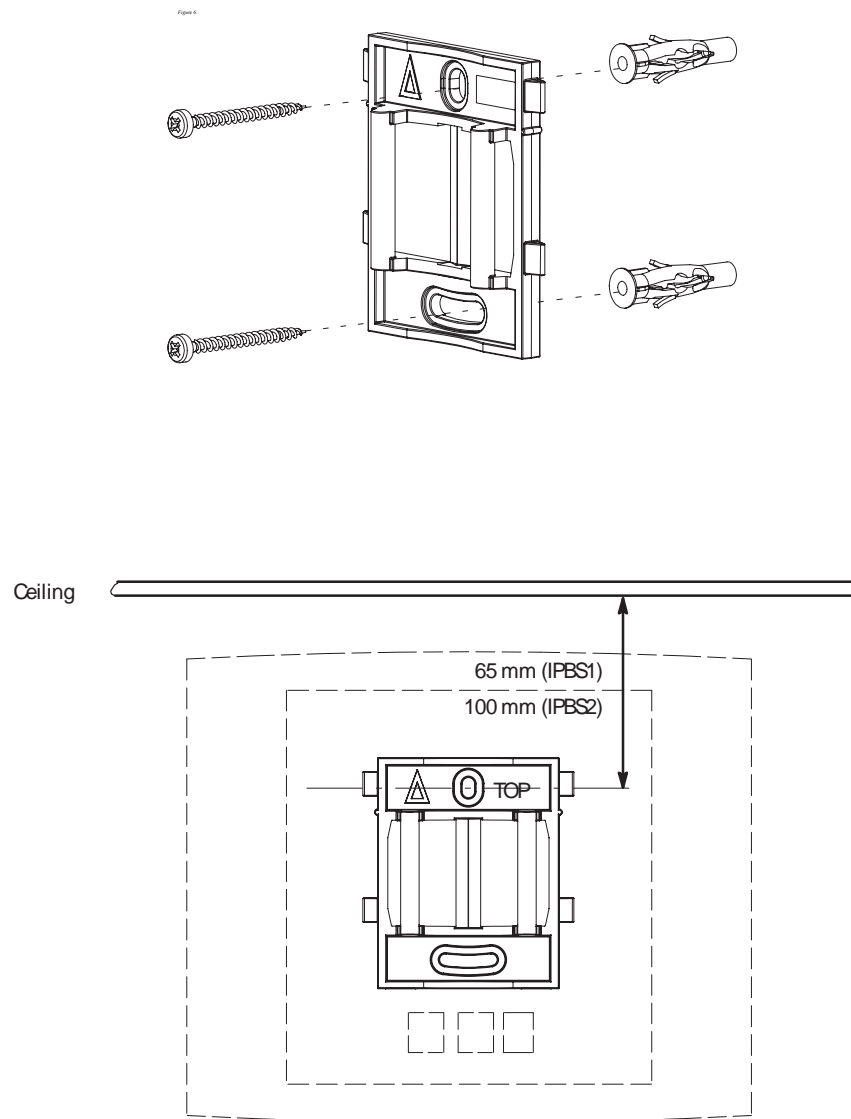

Figure 6. Fixing the mounting bracket to a wall.
Fix the mounting bracket (see figure 6 on page 26) to the wall as follows:
- 1 Hold the mounting bracket with its flat side against the wall with the text 'TOP' upwards and mark the two holes. The minimum distance between the upper hole and the ceiling or any object above the base station must be at least 65 mm for IPBS1 and 100 mm for IPBS2, see figure 6 on page 26. If the distance is less than 65/100 mm, the base station cannot be slid onto the bracket.